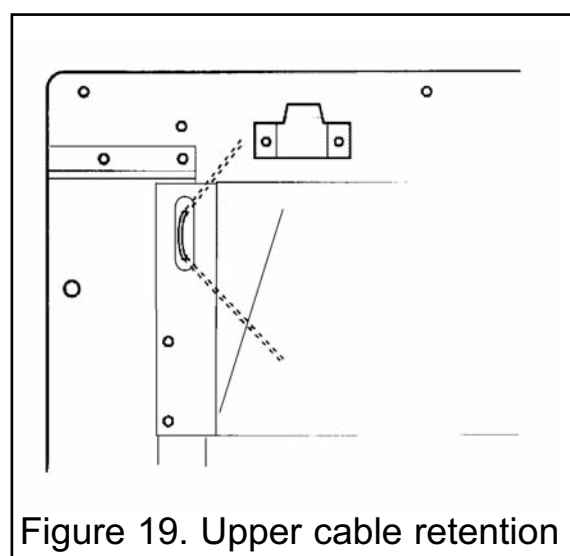

Figure 19. Upper cable retention
**5.** The hotbox has two holes at each side of the spillage plate. Insert one end of each cable (one cable each side) from the back through the lower of the two holes and return the end through the upper of the holes (See figure 19). Give the cables a pull so that they grip against the hotbox flanges.